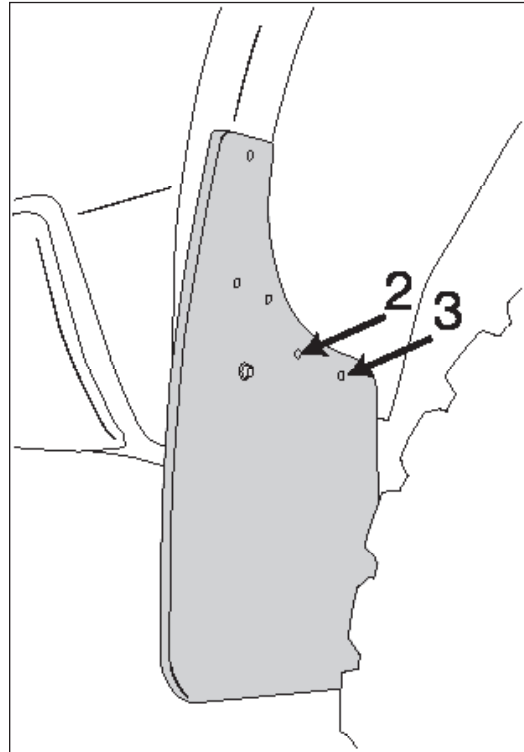

Figure 2
5. Ensuring that the bottom edge of the Splash Guard is still parallel with the ground, drill 8 mm holes through the fender liner at locations 2 and 3 (Fig. 2).